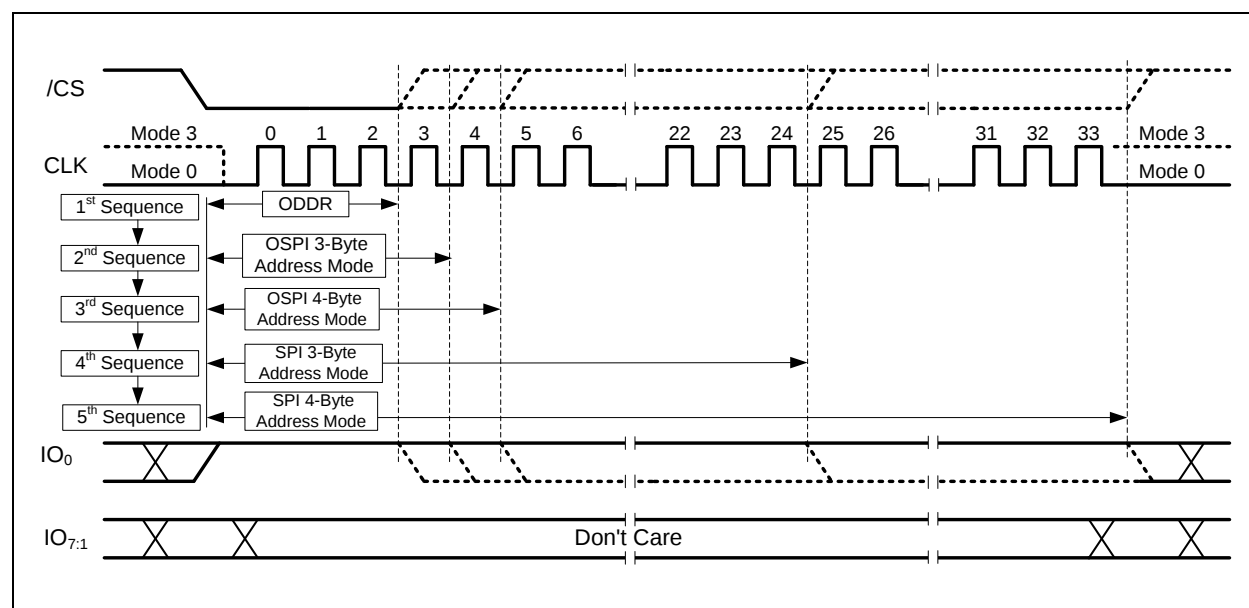

Figure 4-4. Exit XIP Sequence
The above sequence is illustrated in Figure 4-4 below. This sequence will only exit indeterminate XIP mode by setting XMb to '1'. It does not reset the device or interrupt an ongoing internal Program/Erase operation. After terminating XIP mode, the host controller should regain control of the interface and perform the required operations either by doing further interface recovery, power loss recovery, software reset sequence or hardware reset for full device recovery.
- The first step is to execute the Exit XIP Recovery Sequence as detailed on Section 6.5.4 and Figure 4-4 (on the previous section). This is a five step method in exiting XIP mode by driving IO0 to '1' until XIP Mode Bit (XMb) is passed on each of the supported XIP IO Mode Configurations (ODDR, OSPI with 3-Byte or 4-Byte Address, and SPI with 3-Byte or 4-Byte Address).
- The first step is to execute the Exit XIP Recovery Sequence as detailed in Section 6.5.4 and Figure 4-4 (on the previous section). This is a five step method used to exit XIP mode by driving IO0 to '1' until XIP Mode Bit (XMB) is passed on each of the supported XIP IO Mode Configurations (ODDR, OSPI with 3-Byte or 4-Byte Address, and SPI with 3-Byte or 4-Byte Address).